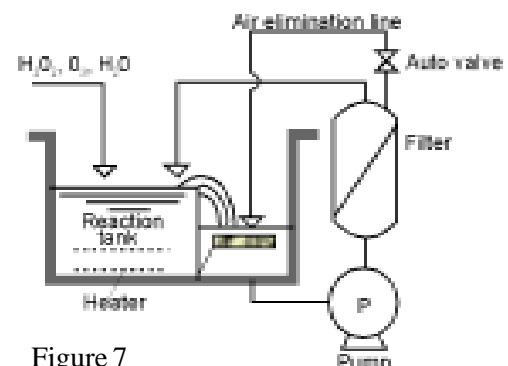

Figure 7
1. With or without a baffle plate, automatic air elimination should be executed continuously in the system. A valve is used to automatically purge collected air from the filter via an air elimination line back to the overflow tank. For example, the air elimination process is activated every 2 minutes after the start-up of the pump by opening the auto valve for 10 seconds. (Figure 7)